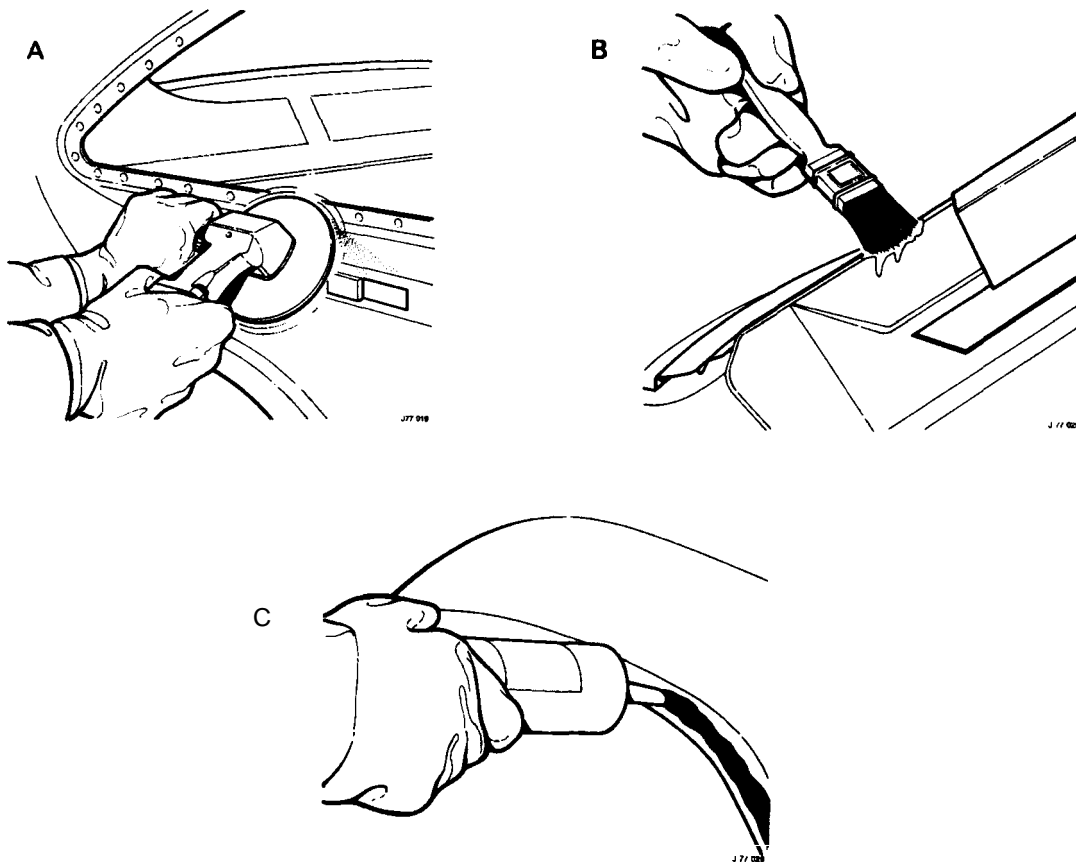

Fig. 1
- Prepare the new panel joint edges for welding by cleaning to bright metal (A Fig. 1); this includes all interior and exterior edges.
- Apply weld-through primer or interweld sealer (B Fig. 1) to all surfaces to be resistance spot welded.
- Where appropriate, apply metal-to-metal adhesive or sealer (C Fig 1) in accordance with the manufacturer's instructions.
- Align the replacement panel with associated panels and clamp in position; with certain panels it may be necessary to MIG tack weld (A Fig. 1) or use 'PK' screws.